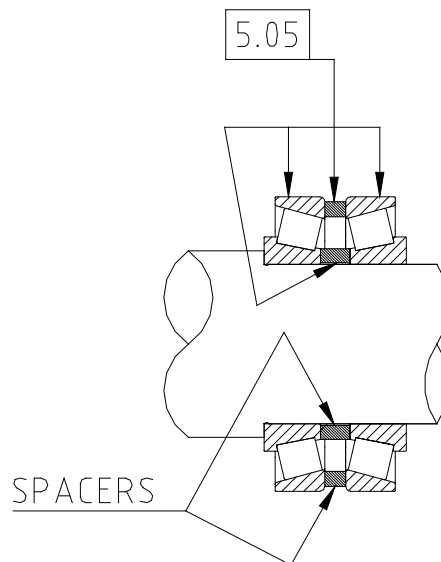

Fig 46 Rear bearing assembly – CP50
- Install bearings (6.02) complete with spacers (6.02) to shafts (5.01 and 5.02) ensuring correct positioning of all components as either removed in 4.3.3 above or as supplied as new replacement set, see Fig 46.